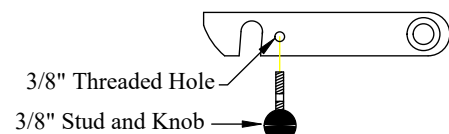

Figure 19: Original Series platform latch knob.
- 1. Install** the two (2) knobs on the platform latches (Original Series only) see (Figure 19).
- 2. Install** the two (2) square plastic insert nuts for the license plate into the square holes on the liftgate.
- 3. Install** the license plate using the two (2) stainless steel screws provided.